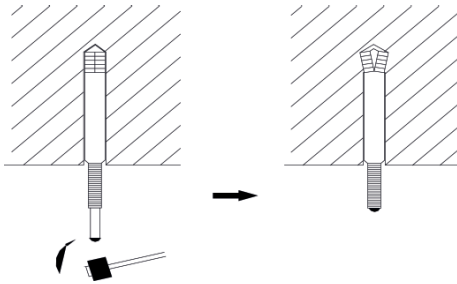

Fig.3
- 1) Insert the M10 expansion bolt into the hole, and then knock the nail into the bolt. Refer to the Outline Dimension Drawings of the indoor Unit for the distance between holes and see Fig.3 for the installation of the expansion bolt.